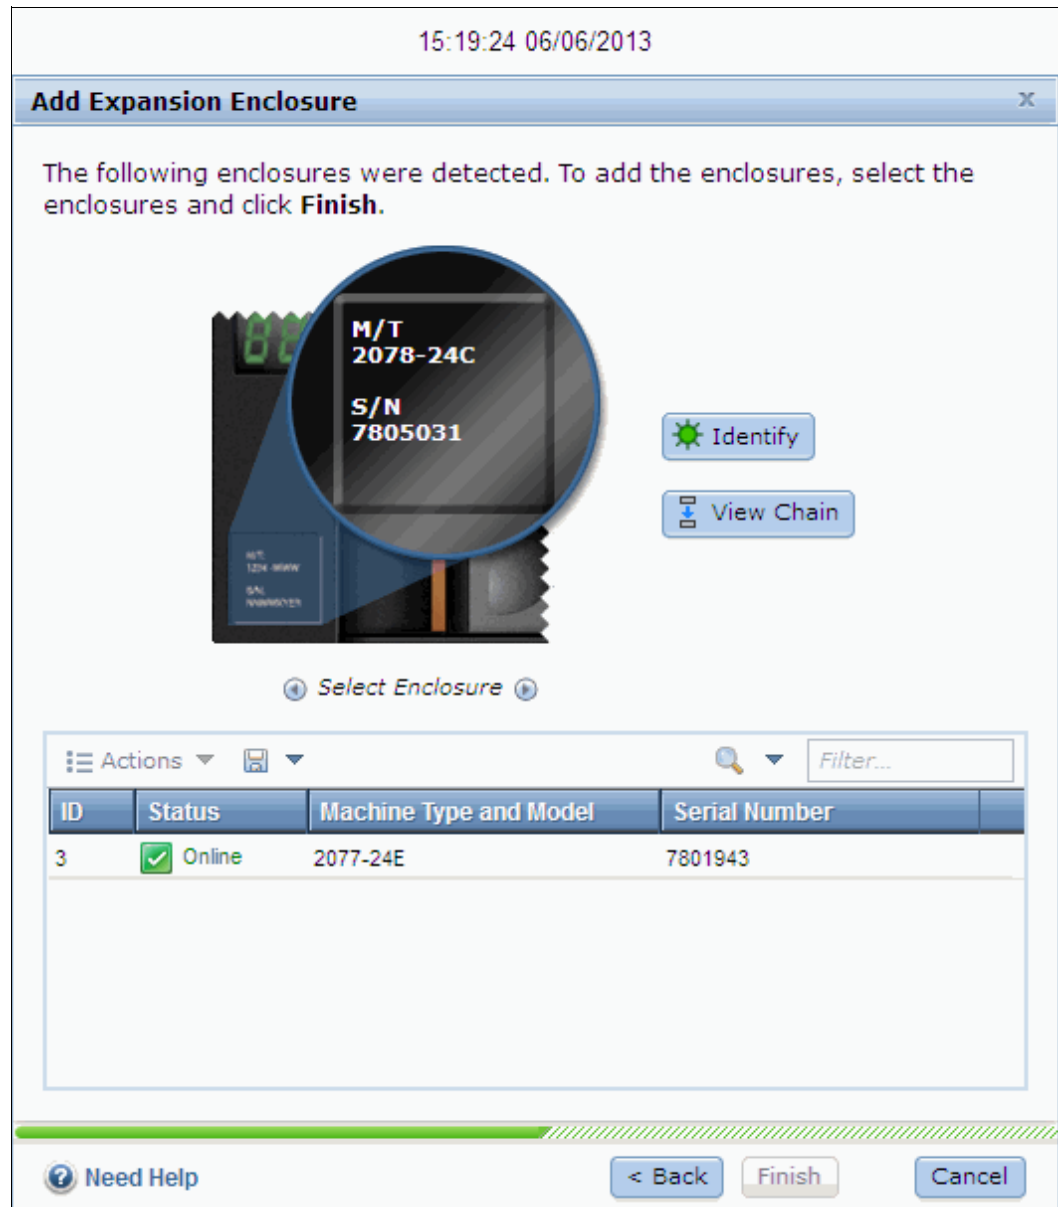

Figure 2-45 New hardware to be added
4. A window opens that shows the details of the new hardware to be added, as shown in Figure 2-45. There is an option to identify the new enclosure by flashing the identify light and another option to view the SAS chain that relates to the enclosure.